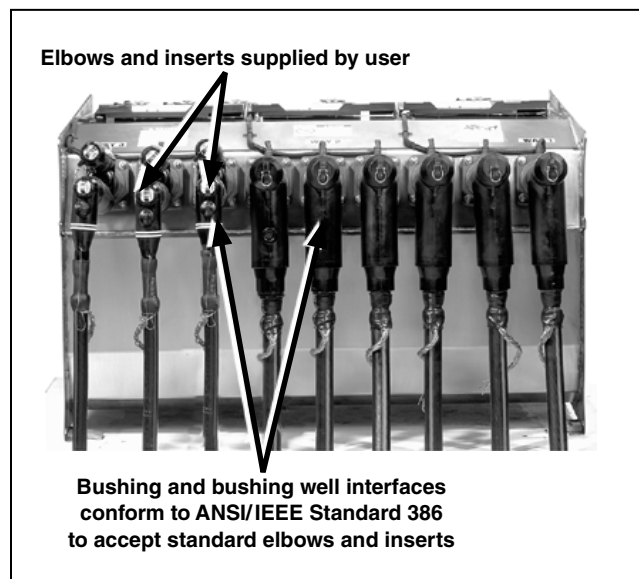

Figure 15. A Vista switchgear tank shown with user-supplied cables and elbows. (Manual unit shown for illustration purposes.)
- STEP 2.** Terminate the cables with elbows following the elbow manufacturer's instructions. See Figure 15.